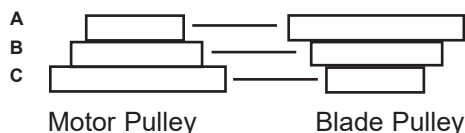

fig.2
Adjust the blade speed to suit the metal to be cut. The recommended pulley selections are shown in fig.2. Disconnect saw from power supply and open the pulley cover (52).